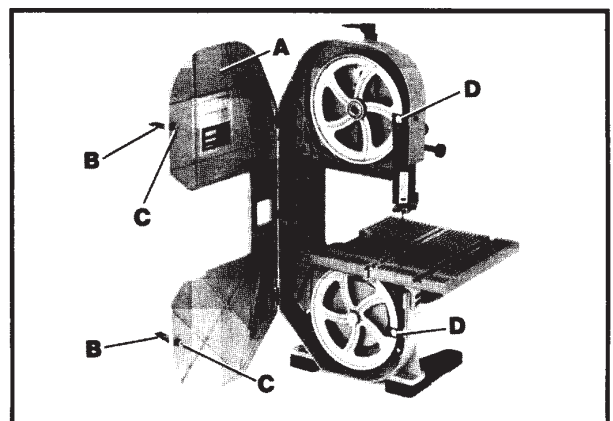

Fig. 16
3. The hinged door (A) is shown in the open position in Fig. 16.
4. To close and fasten the door (A) Fig. 16, make sure the expansion latches (C) are inserted into the two bracket holes (D) and move the latch levers (B) to the down "locked" position.